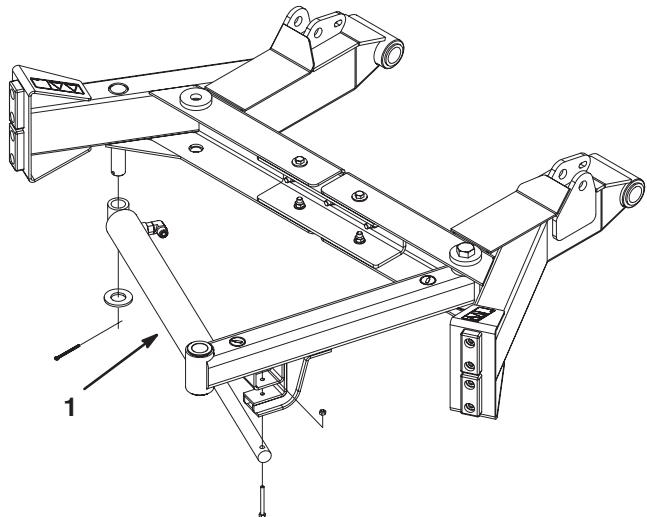

Figure 11
7. Secure cylinder to post on underside of right lift arm with a 1.063 x 2.000 flat washer and cotter pin (Fig. 11).
8. Secure shaft end of cylinder to mounting gusset on under side of left brush arm with a M6-1 x 60 capscrew and M6 locknut (Fig. 11). Torque to 87–105 in-lb.